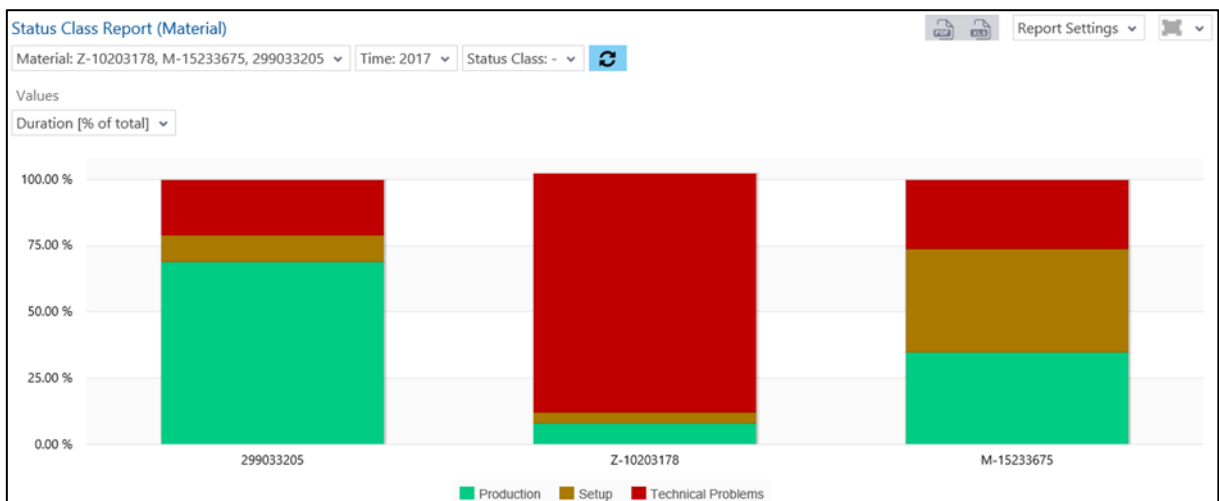

Fig. 67: Operating state class report (material) as column chart
- Operating state class report (material) as column chart (fig. 67):